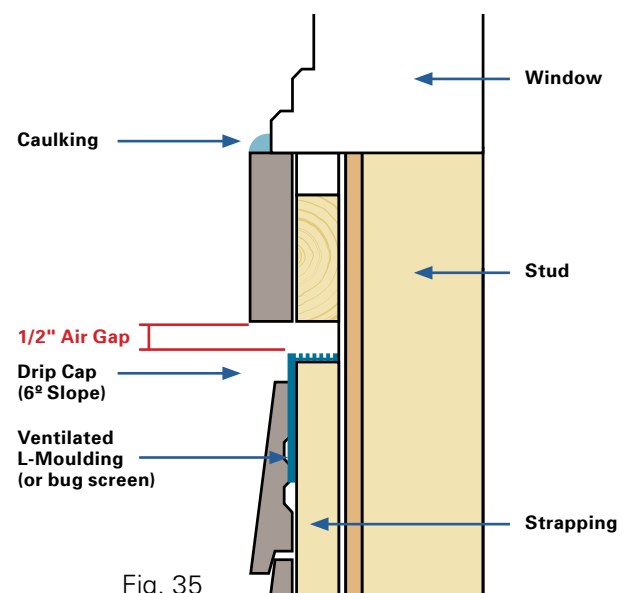

Fig. 35
- Install Fraser Ventilated L-Moulding (or bug screen) to allow air flow, and prevent insects from nesting behind the siding. *(See Figure 35)*